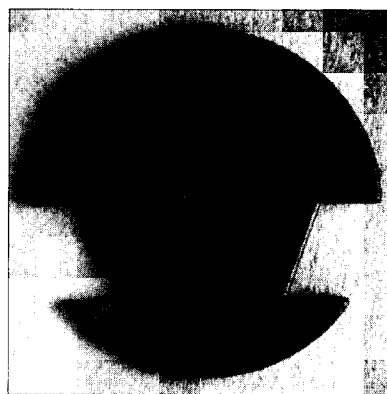

Figure 18
1. Remove firing gauge (see Figure 18).